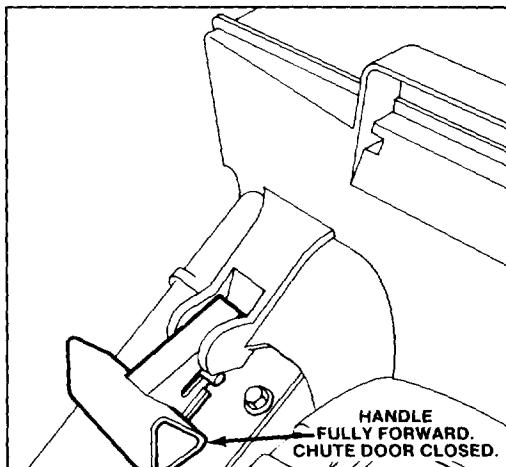

Figure 6
MULCH — In summer, when grass grows slower and is drier, mulch by closing chute door (Fig. 6). For convenience and protection, keep grass bag on mower.
2. Assure chute door handle is fully forward and pin is engaged in catch. (Fig. 6).
5. EMPTYING BAG — Stop motor and wait for all parts to stop. Move chute door handle forward to engage the locking pin with catch (Fig. 6). Grasp bag handle and rear of bag and lift bag off mower. Gradually tip bag forward to empty clippings.